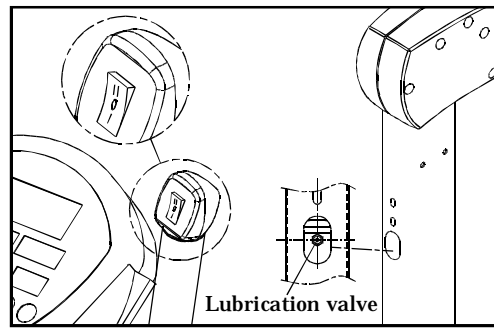

Fig.11-1
- (b) By pressing the stride adjustment switch to level the nut, and posit the lubrication valve to middle. (see fig.11-1)